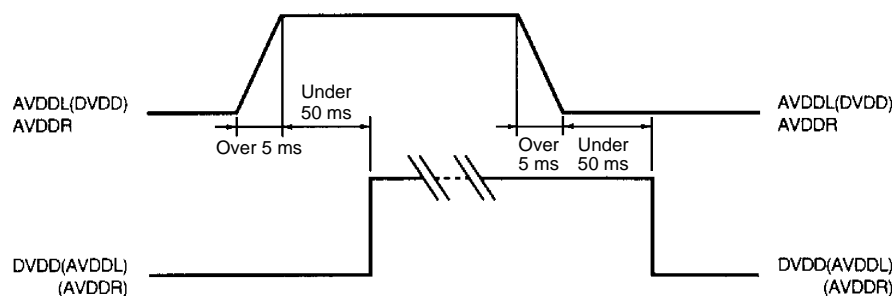

Figure 2
- (2) If the time lag must be over 3 ms, then the rise time for the first power supply to be powered on (or powered off) must exceed 5 ms, and furthermore, the time difference must not exceed 50 ms as shown in figure 2.